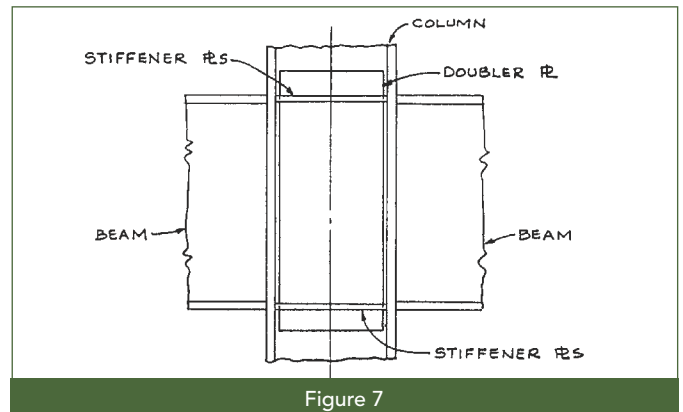

Figure 7
**Consider using a heavier column shaft to eliminate the need for web doubler plates and/or column stiffeners opposite the flanges of moment-connected beams.** One pair of stiffeners installed costs approximately the same as 300 lb of A992 steel if the stiffeners are fillet welded. If they are groove welded, the cost skyrockets to the equivalent of 1,000 lb of A992 steel. The cost of one installed doubler plate is about the same as 350 lb of A992 steel (see Figure 7). Considering that for an average two-floor column there could be as many as four pairs of stiffeners and two or more doubler plates, at least 1,900 lb of A992 steel could be sacrificed in order to save the time and expense of making the lighter shaft compliant. For more information, see AISC *Design Guide 13: Wide-Flange Column Stiffening at Moment Connections*.